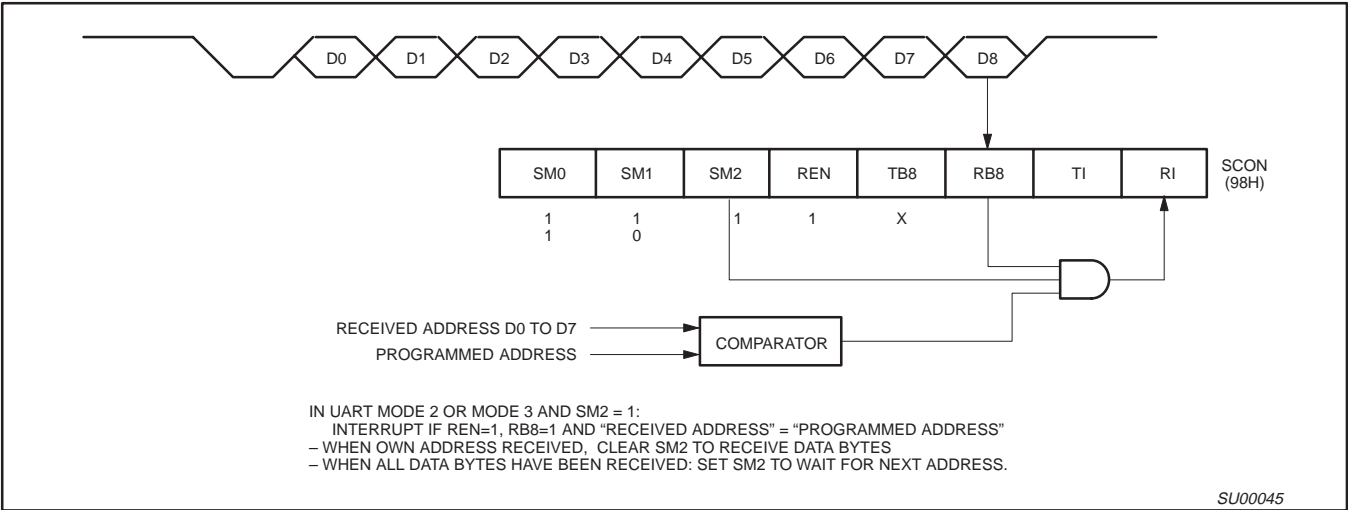

Figure 9. UART Multiprocessor Communication, Automatic Address Recognition
hardware to make the comparisons. This feature saves a great deal of software overhead by eliminating the need for the software to examine every serial address which passes by the serial port. This feature is enabled by setting the SM2 bit in S0CON. In the 9 bit UART modes, mode 2 and mode 3, the Receive Interrupt flag (RI) will be automatically set when the received byte contains either the "Given" address or the "Broadcast" address. The 9 bit mode requires that the 9th information bit is a 1 to indicate that the received information is an address and not data. Automatic address recognition is shown in Figure 9.